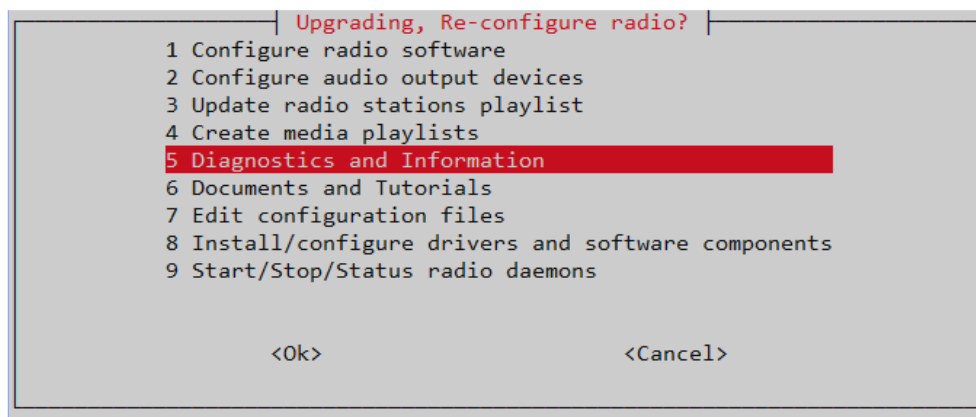

Figure 259 Diagnostics and Information menu
- Select option **1 Run the radio in diagnostic mode (nodaemon)** shown in *Figure 259 Diagnostics and Information menu* on page 218.
- Select option **2 Test rotary encoders** from the diagnostics menu. shown in *Figure 259 Diagnostics and Information menu* on page 218.